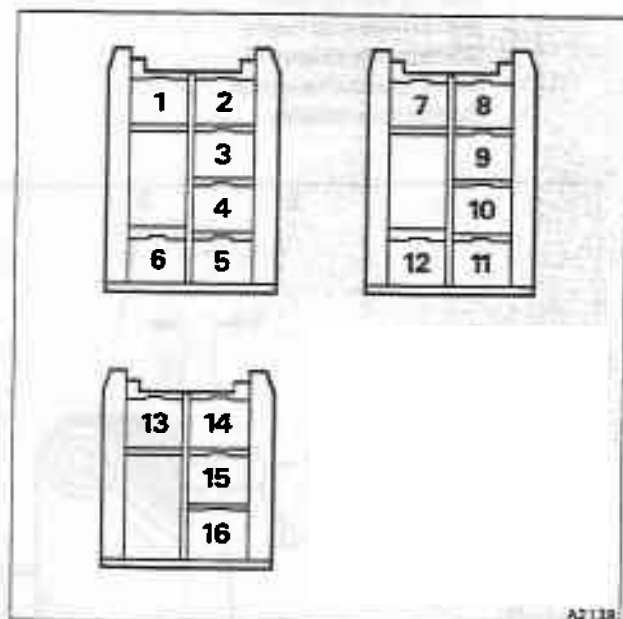

Fig. T6-6 Loom plug connections
21. Check the inside edges of the conduit elbow (tunnel connection) are free of burrs. Feed the loom through the conduit and elbow; push the conduit over the cable exit connection of the casing and the conduit elbow, secure both ends with clips. Remove the tape from the cable ends; connect the cables into the plugs (see fig. T6-6).